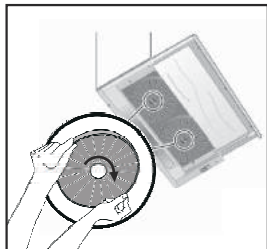

Fig. 8: AF 100 CARBON FILTER
- 1-Place the carbon filter in its housing (Fig. 8).
- 2-Rotating the carbon filter clockwise, ensure that it is completely fit (Fig. 8).